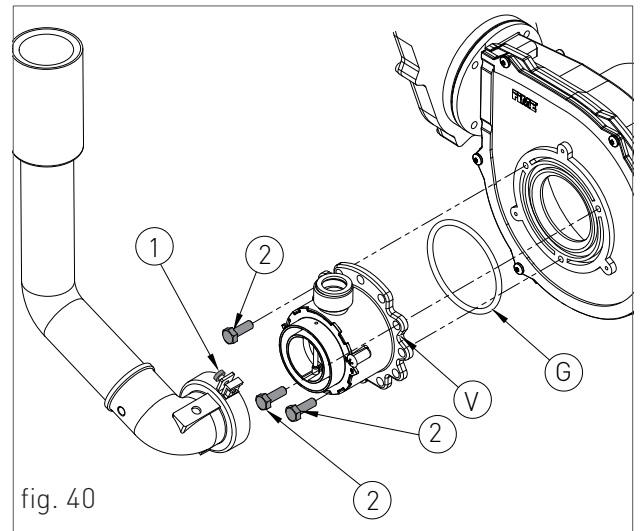
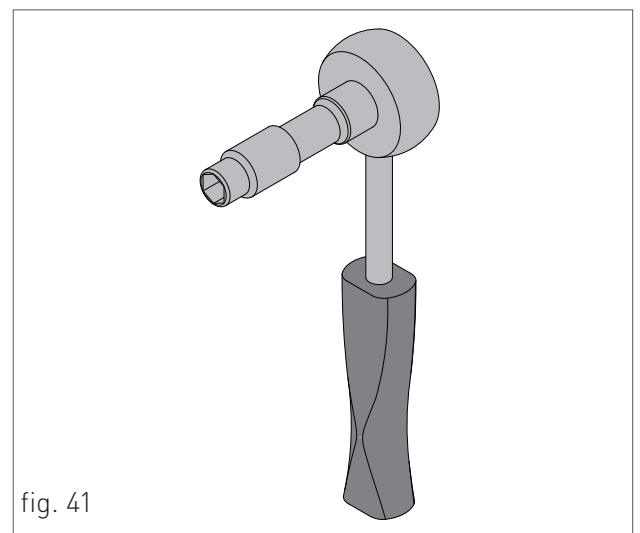

fig. 40
fig. 41
- › loosen the two screws '1' (fig. 40) from the fastening clamp, and remove the air suction tube;
- › unscrew the three fastening screws '2' (fig. 40) of the venturi 'V' (fig. 40) using a 10 key, as shown in figure 41;
- › remount the components following the demounting operations in reverse making sure that gasket 'G' is re-assembled as shown in fig. 40;